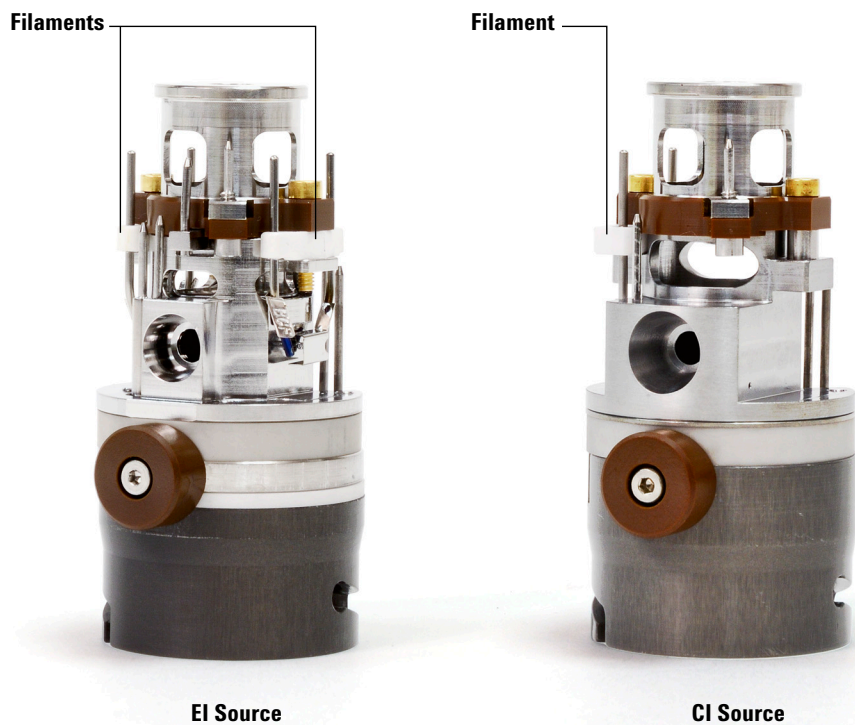

Figure 35 Changing the filament
- 2 Remove the screw holding the filament to the ion source body. (See Figure 35.)
- 3 Slide the filament off the ion source assembly. (See Figure 35.)
- 2** Place the new filament into its position on the ion source body. (See Figure 35.)